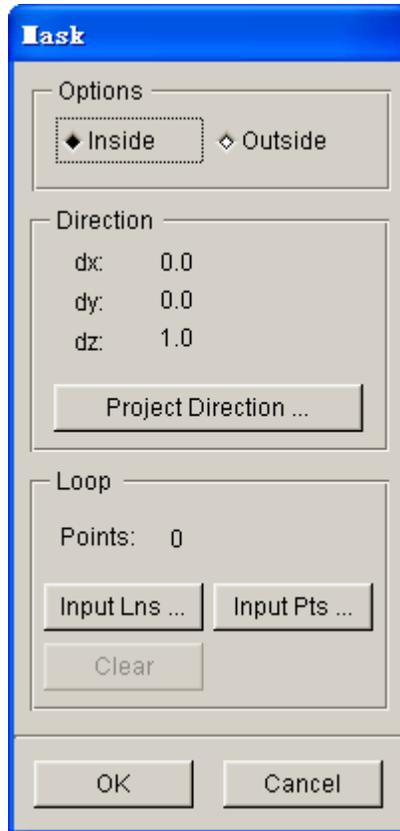

Figure 8.2.97 Define fluid pressure boundary
**MASK:** Assign boundary of applied fluid pressure using closed loop line. Applied fluid pressure can be either inside or outside of the boundary. By default, fluid pressure is applied on all blank elements. Click the Entire button to display the MASK dialog box illustrated in Figure 8.2.97.